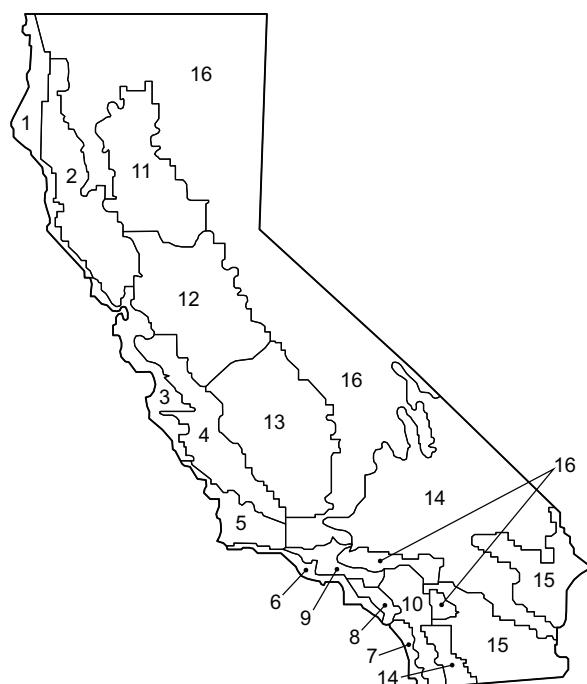

Fig. 68 — California Title 24 Zones
- Refer to Fig. 68 for map of California Title 24 zones.